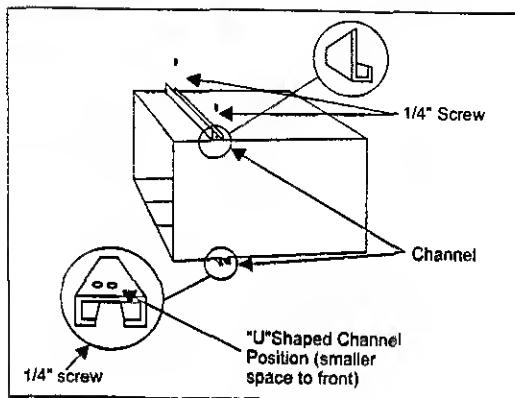

Fig 7
A. **"L" Shaped Top Channel:** Install the "L" shaped top channel to the cabinet as shown in (Fig 7) using (4) 1/4" screws
B. **"U" Shaped Bottom Channel:** Install the "U" shaped bottom channel to the cabinet as shown in (Fig 7) using (4) 1/4" screws